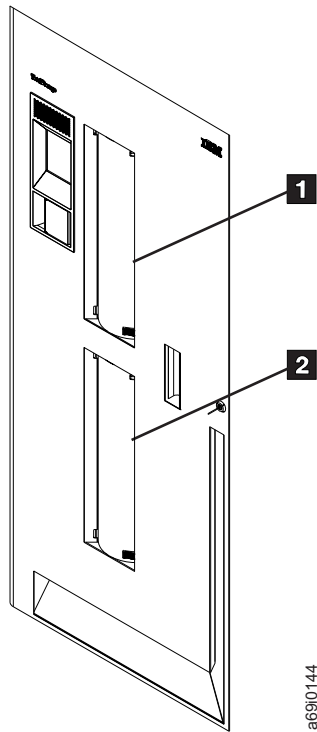

Figure 11. Storage slot addresses in the I/O stations of the 3584 Tape Library. The door of a Model L22 or L52 frame is shown.
- An I/O slot address of F01,R05 means frame 1, slot 5 (fifth row from the top of the upper I/O station; see **1** in Figure 11 on page 36).